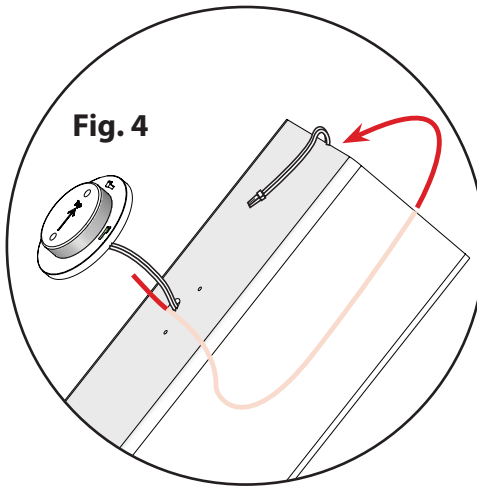

Fig. 4
6. Route the Sconce Light wire through the wire hole and out of the top of the Post Sleeve. **Fig. 4**